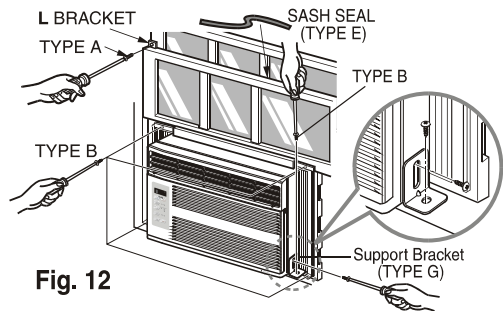

Fig. 12
Extend the guide panels (TYPE F) to fill the window opening using 4 screws (TYPE B) to secure them, as shown in Fig. 12.
- a. Cut the sash seal (TYPE E) to the window width. Stuff the sash seal between the glass and the window to prevent air and insects from getting into the room, as shown in Fig. 12.
- b. Fasten the L bracket using a (TYPE A) screw, as shown in Fig. 12.
- b. Fasten the support bracket (TYPE G) using a removed screw. Attach the support bracket (TYPE G) in the inner window sill with a screw (TYPE B), as shown Fig. 12.